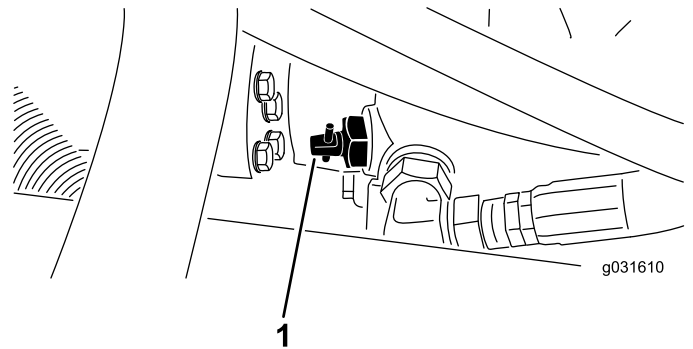

Figure 29
1. Locate the bypass valve on the pump (Figure 29) and loosen it by rotating 90° (1/4 of a turn).